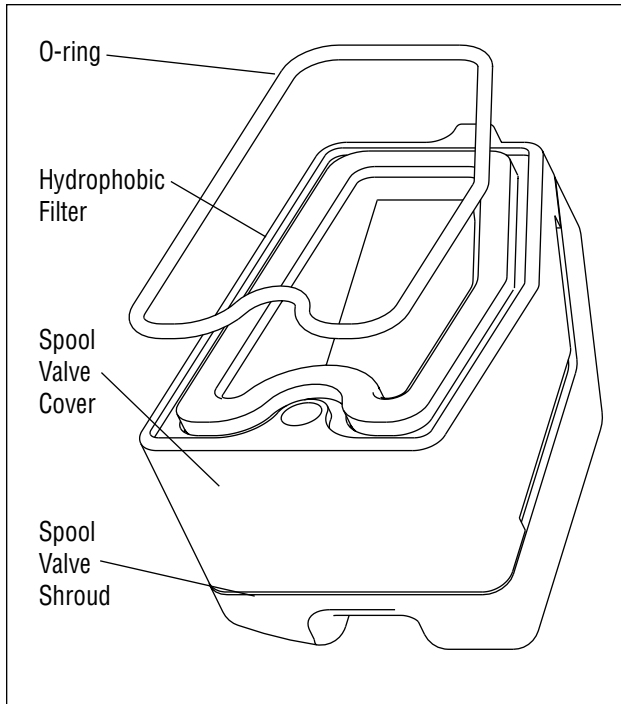

Figure 12: Spool Valve Cover Assembly
4. Remove the O-ring from around hydrophobic filter element and set aside (Figure 12).
7. Install O-ring into base of chamber cover vent piece as shown in Figure 12.